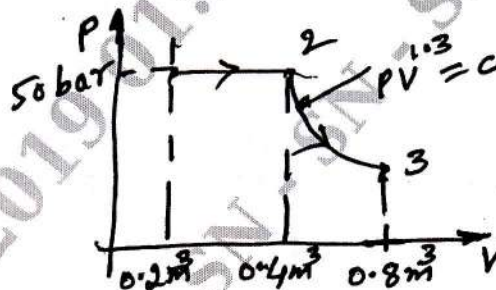

Fig Q2(c)
- c. Determine the total work done by a gas system following an expansion process as shown in Fig Q2(c)